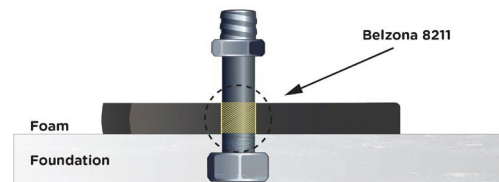

Figure 3 – Isolating the bolts using **Belzona 8211**
- Isolate the bolts to prevent contact with **Belzona 7111** once poured, by using tape wrap, tube insulation, or simply impregnating them with **Belzona 8211**, as shown in Figure 3.